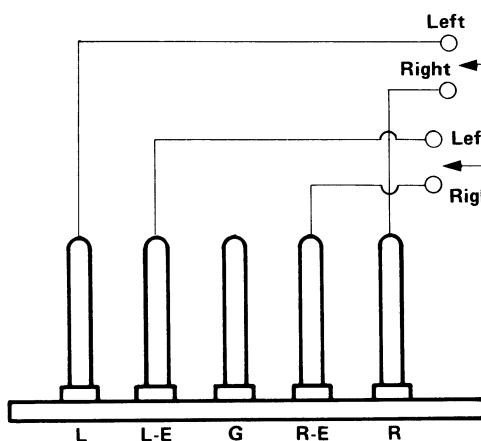

Fig. 23A
1. Turn R739 and R740 fully counterclockwise before pressing the power switch on. Refer to Fig. 23A.